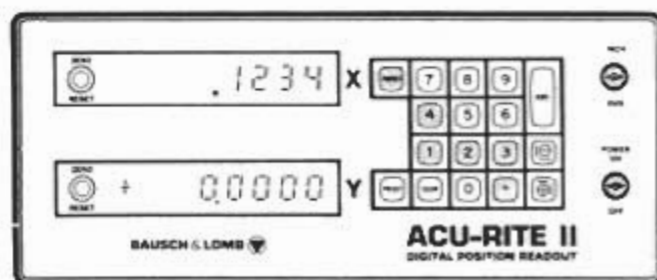

Figure 3-10 Console Status: Digit Display
- Enter the preset value by pushing the appropriate digit keys, including the decimal point (see Figure 3-10). If an error is made, push the CLEAR key and start again.